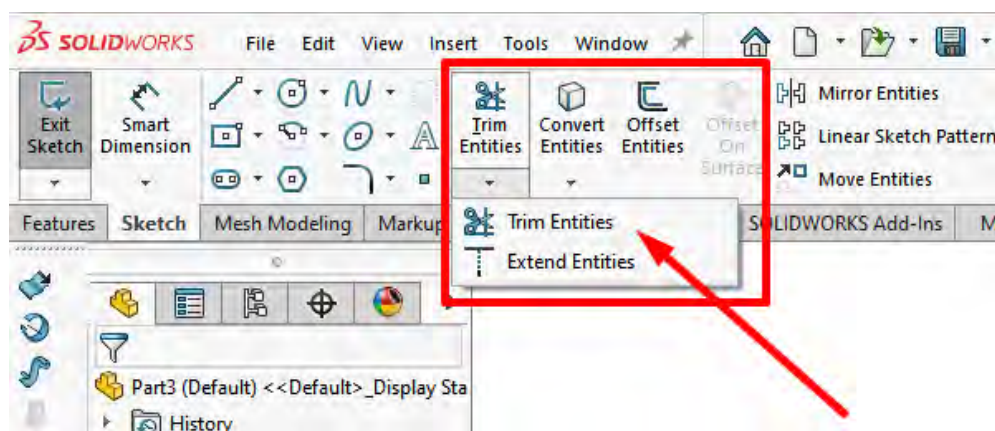

Fig. 5
- Use **Trim Entities** (Trimming) to remove unnecessary lines and curves that are not part of the main contour (Fig. 5).